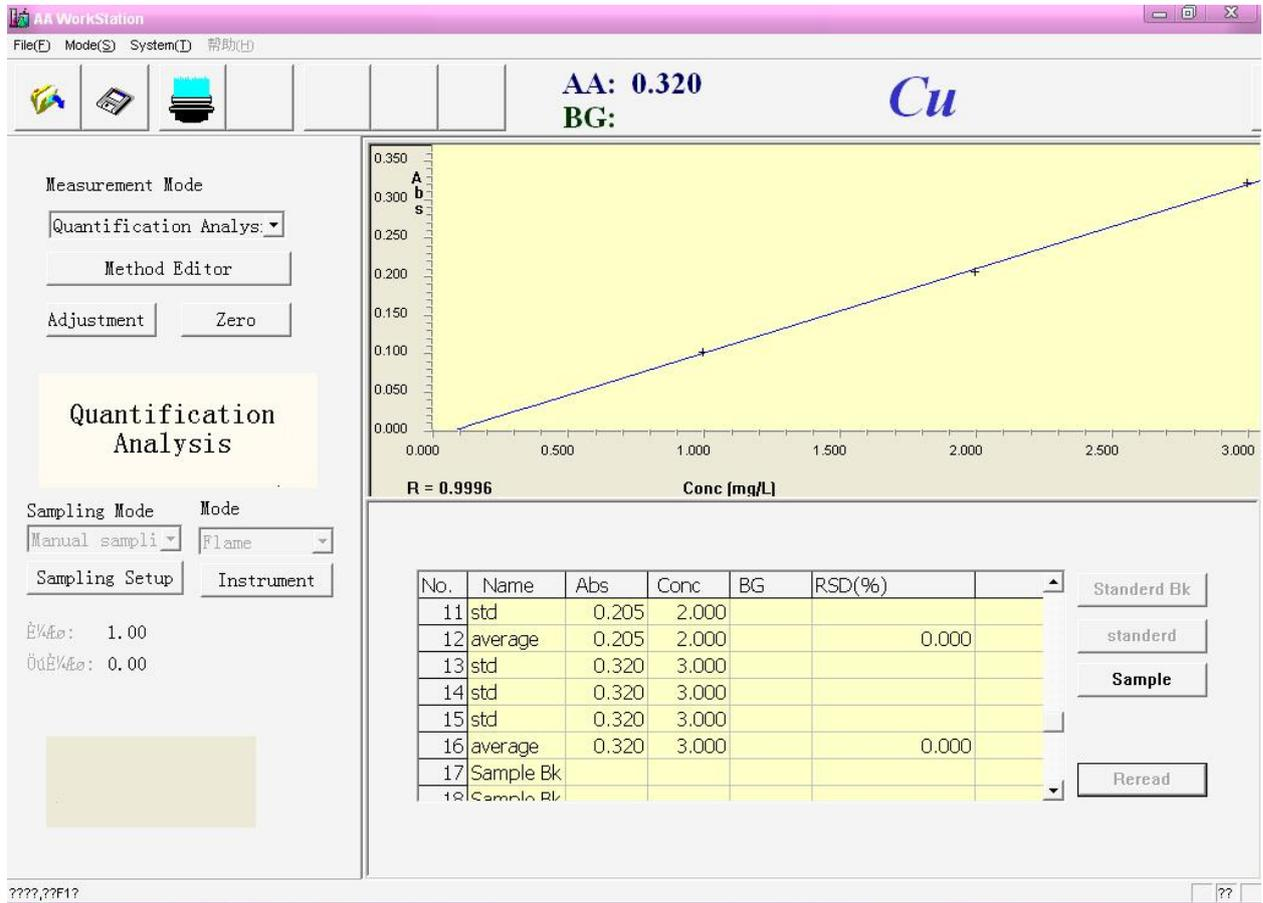

Figure 5-15
12. Follow this process testing the other two standard sample, after the testing, display the figure 5-15